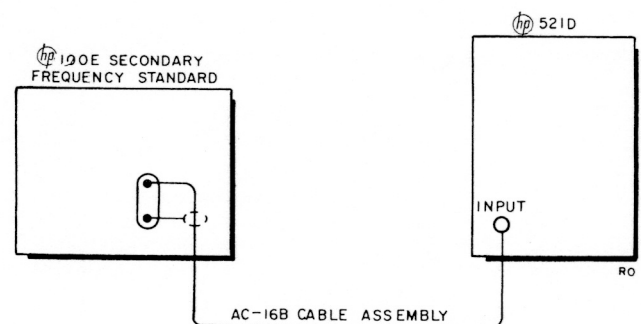

Figure 4-2. Equipment Setup for Setting Crystal Time Base Oscillator Against a Local Standard
- 2) Connect 100-kc output from frequency standard such as  Model 100E to 521 INPUT connector. See Figure 4-2.